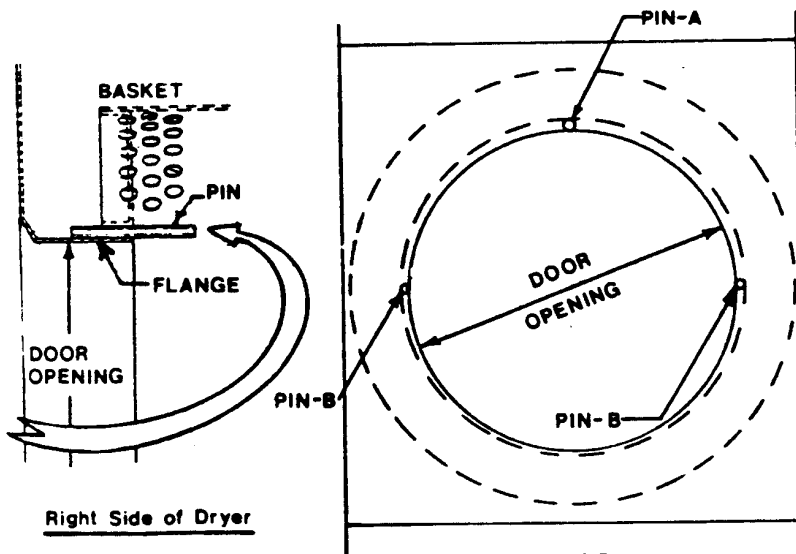

Fig. 1
2. Place one "A" and two "B" diameter pins inside the drying compartment between the rim of the basket opening and the rim of the door opening in the positions shown in Figure 1 and Figure 2. Check the two "B" pins for equal clearance.